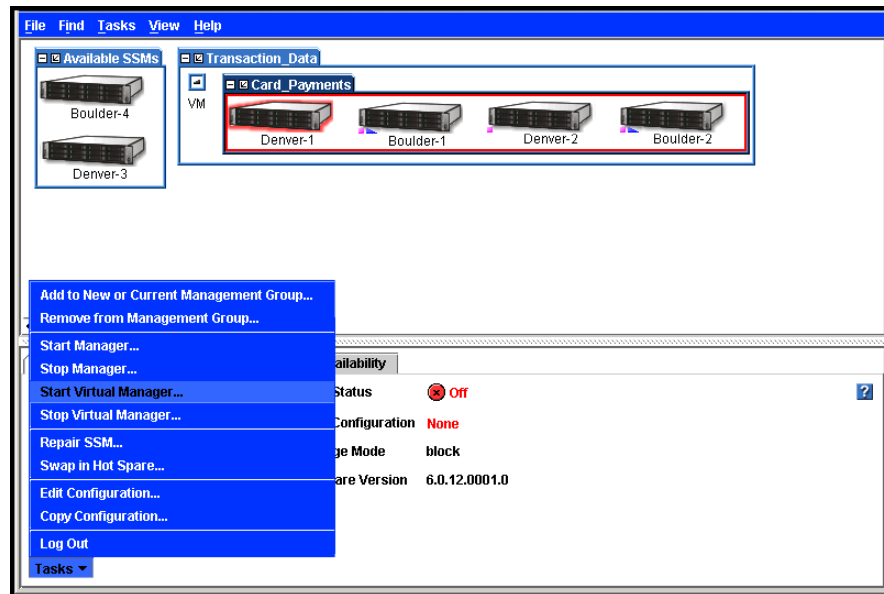

Figure 149. Starting a Virtual Manager
A virtual manager must be started on an SSM, ideally one that is not already running a manager. However, if necessary, you can start a virtual manager on an SSM that is already running a manager. Figure 149 shows a management group with a down manager.
2. From the Tasks menu on either the Details tab or the Management Group Information tab, select Start Virtual Manager, shown in Figure 149.